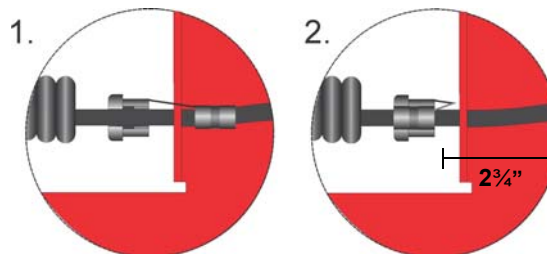

Figure 8 Strain Relief Clip Installation
3. Attach the strain relief clip to the microphone cord. The strain relief clip should have about 2 3/4" of microphone cord through it. See Figure 8.